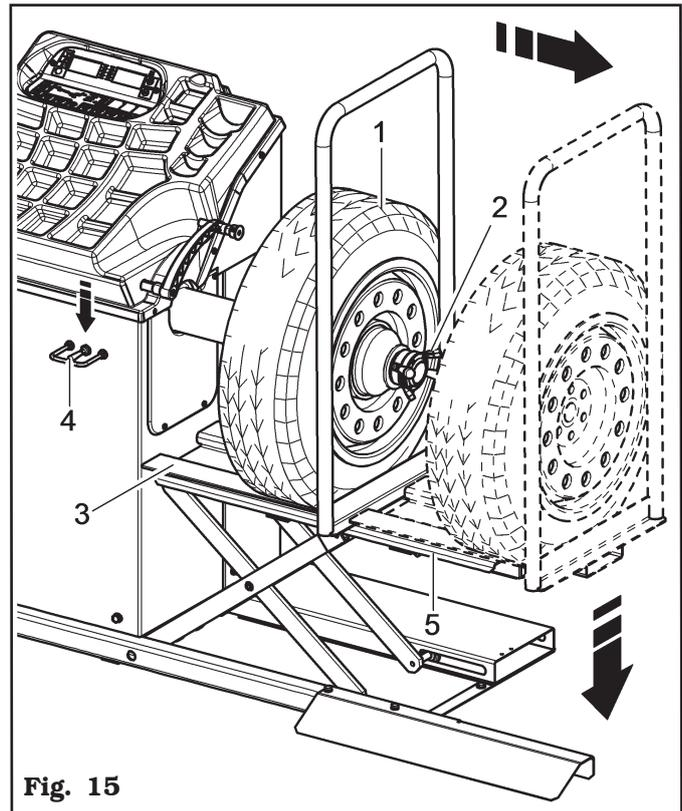

Fig. 15
3. Unlock the wheel (**Fig. 15 ref. 1**) engaged to the mandrel, removing the locking devices (**Fig. 15 ref. 2**).
4. Move rightwards the wheel support (**Fig. 15 ref. 3**) together with the tyre that is leaning against it.
5. Lower the lowering device control (**Fig. 15 ref. 4**) and then lower the footboard (**Fig. 15 ref. 5**).